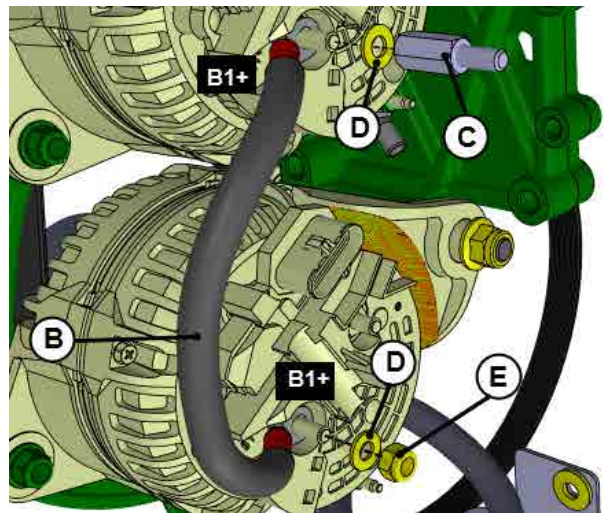

FIGURE 8
7. Reinstall appropriate jumper cable **B** (i.e. rev.C) with appropriate stud adapter. Refer to FIGURE 8.